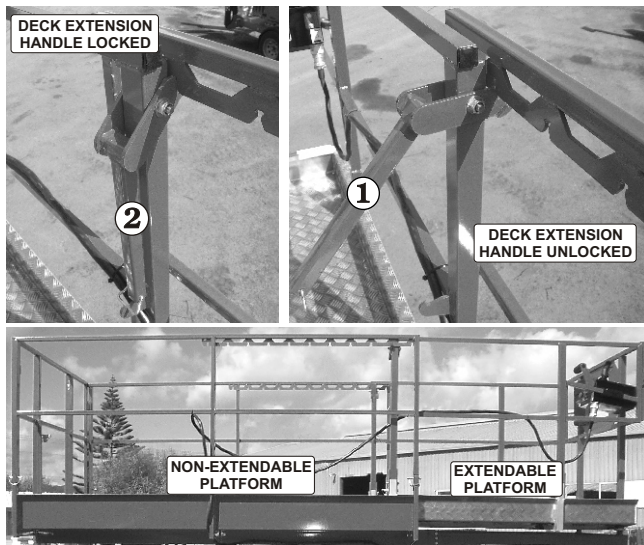

Figure 8.26
2. Lift up the deck extension handles (one (1) for each side of the deck) ❶ to unlock the deck (see Figure 8.26).
4. Lower the deck extension handles and allow the lock ❷ to locate (see Figure 8.26).
The MULTI-position extendable platform (see Figure 8.26) can be securely locked into different positions. To move it from one (1) position to the other do the following: